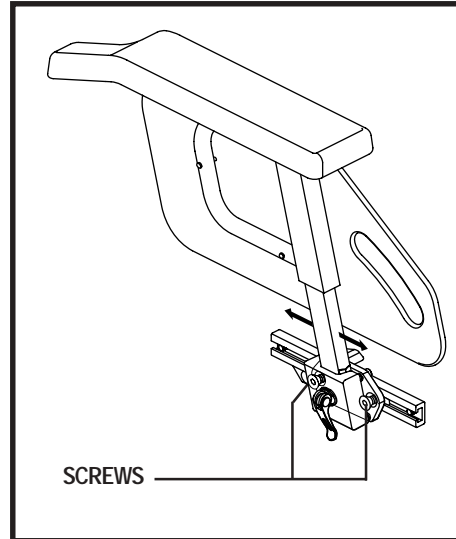

Figure 9. Drop-in Armrest Position Adjustment
1. Remove the two screws from the armrest receiver bracket. See figure 9.